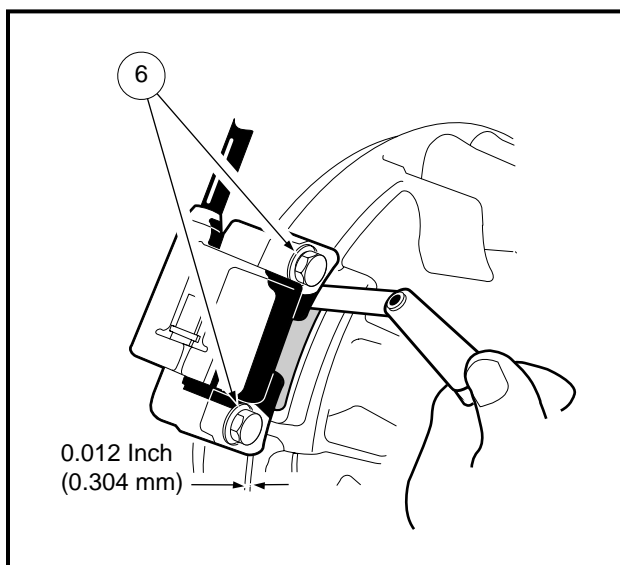

Figure 12-29 Set Air Gap
8. Install the gasket (2) on the cap (1).
10. Rotate the flywheel until the magnet is positioned directly under the coil. Use a .012 inch (0.304 mm) bronze feeler gauge to set the air gap between the coil and the flywheel magnet. Tighten the mounting bolts to 30 in-lb (3.4 N·m) (**Figure 12-29, Page 12-25**).